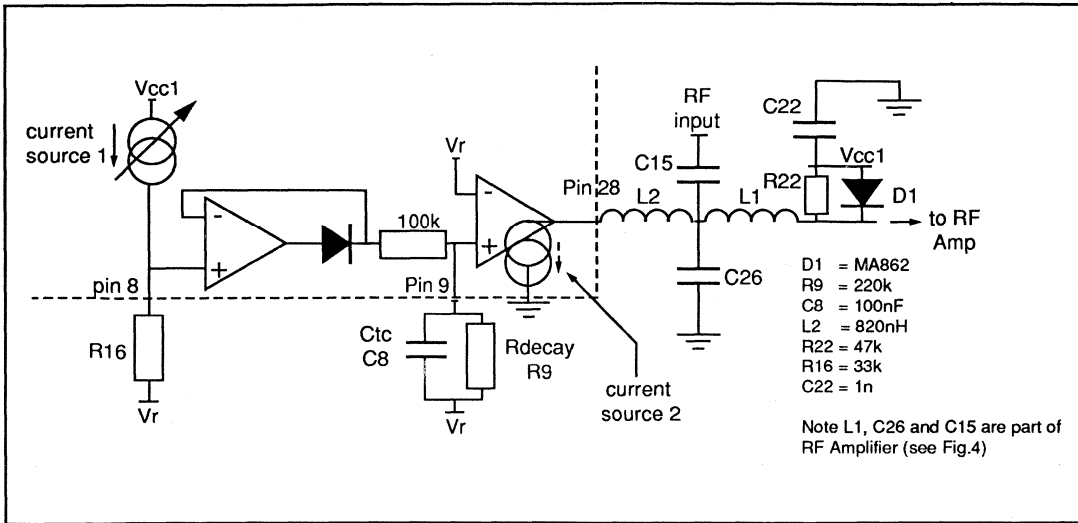
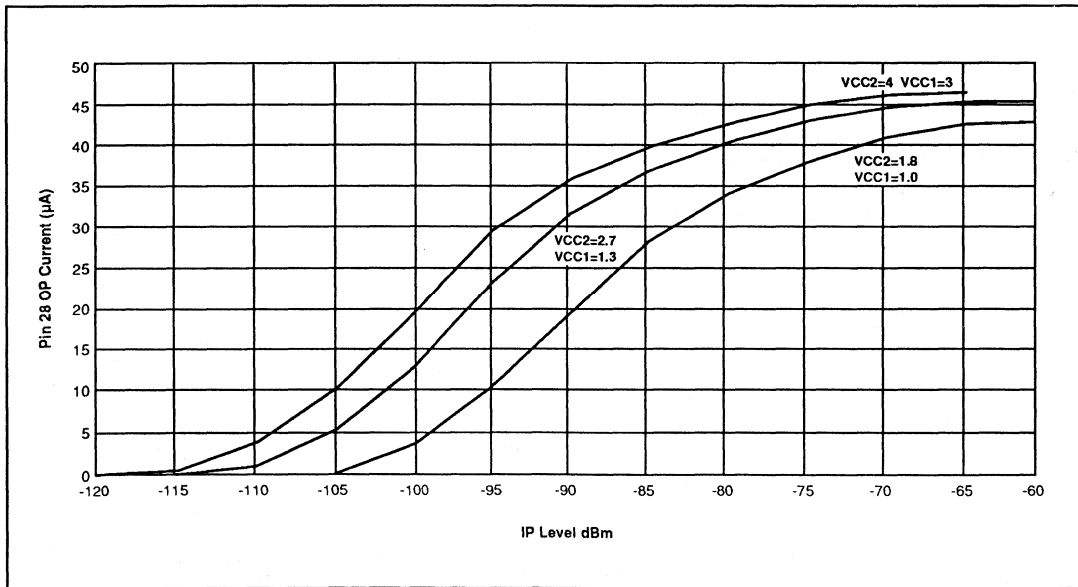

Fig.6 AGC Schematic
Fig.7 Audio AGC current vs. IP power at 25°C
- Suggested diode for use with the Audio AGC circuit (see Fig.6) (D1 is not included on the general demonstration circuit).
4. L2 is used in the Audio AGC circuit (see Fig.6). For the characteristics of the Audio AGC current source see figure 7. If the Audio AGC is not required then the current source (Pin 28) may be disabled by connecting